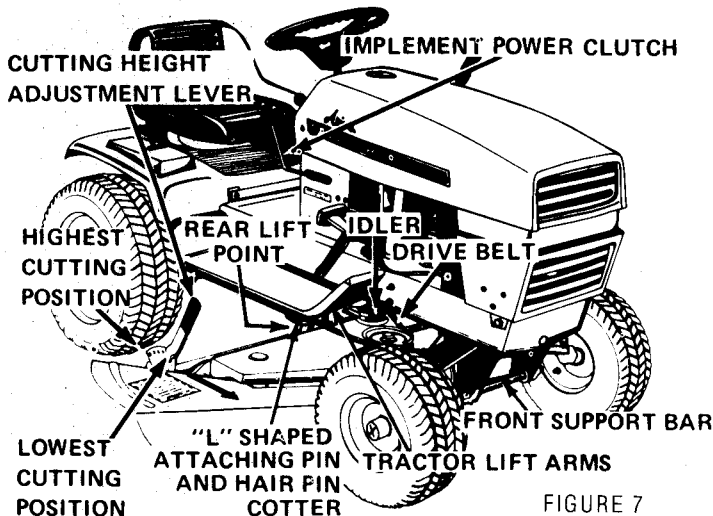

FIGURE 7
3. Place cutting height adjustment lever in the second lowest cutting position as shown in Figure 7.
5. Place the drive belt over the rear lift point and lower the attachment lift lever. Align ball joint of rear lift point to tractor lift arms and secure with the "L" shape attaching pin and hairpin cotter provided. See Figure 7.
shown in Figure 7.